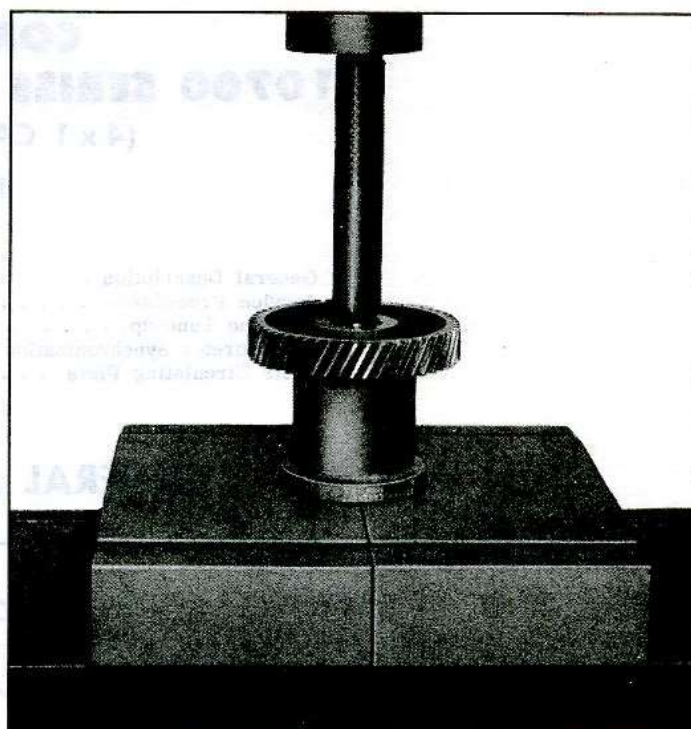

Fig. 126—Removing Camshaft Gear
1. Install Tool J-971 under camshaft gear and place assembly in an arbor press to remove camshaft gear (fig. 126).